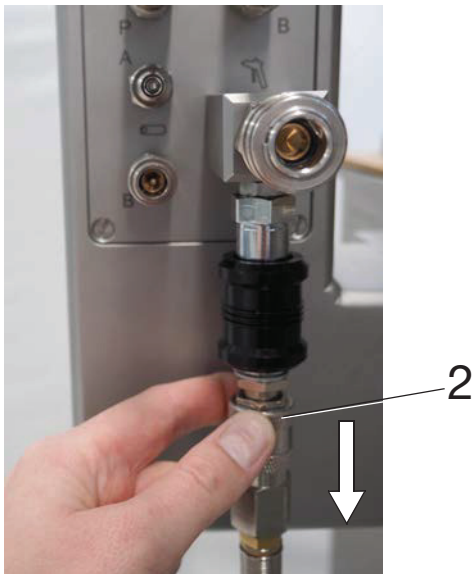

Fig. 8-3 2 Ring on the air release valve
- Push and hold the compressed air hose in the direction of flow while pushing the ring on the air release valve (2, Fig. 8-3) against the direction of flow and remove the hose.